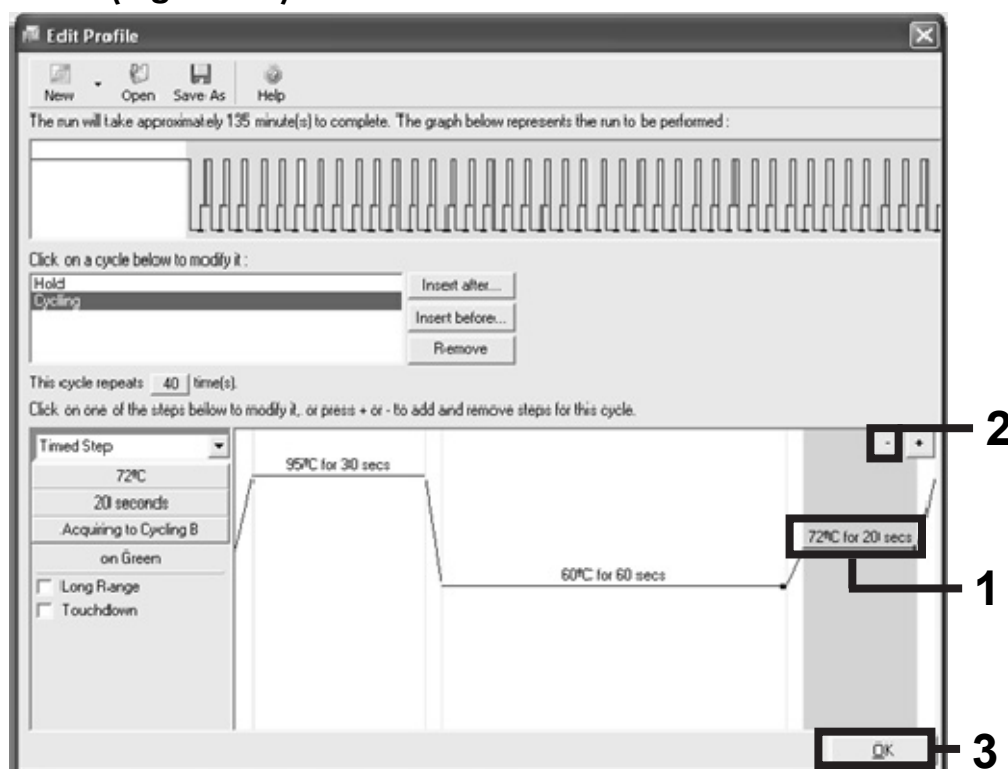

Figure 23. Removal of the extension step.
12. Highlight the third step and delete by clicking the “-” button. Click “OK” (Figure 23).